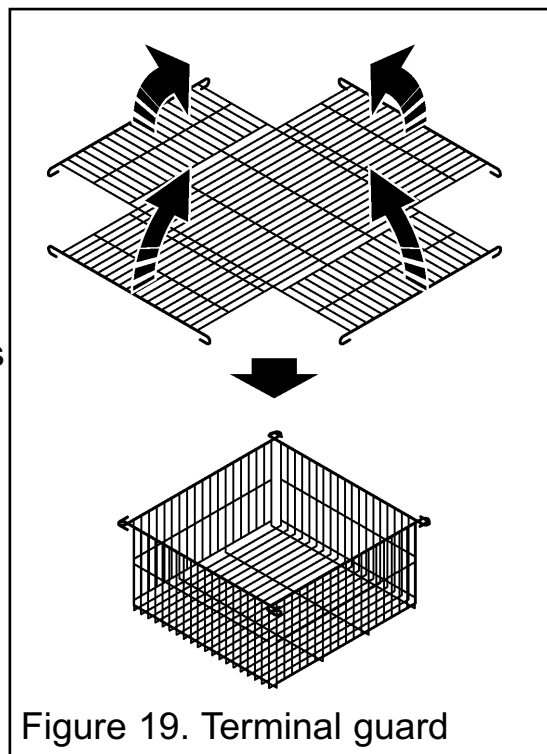

Figure 19. Terminal guard
- Fold the terminal guard as shown in figure 19.